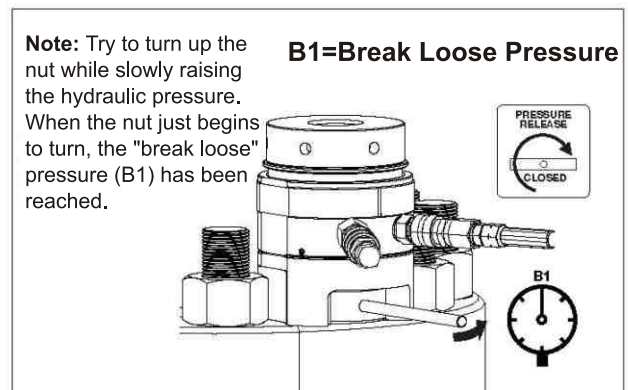

Figure 4.4-2 Determining the "Break Loose" Pressure
4.4.3 If no leaks are found, continue operating the pump. Slowly raise the pressure until the "break loose" hydraulic pressure value is reached. This is the pressure at which a nut on one of the tensioners just begins to loosen and can be turned by hand with the tommy bar. Record this pressure for reference. See Figure 4.4-2.